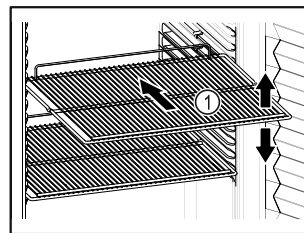

Fig. 77 Example illustration
- ❑ If storage surfaces Fig. 77 (1) are movable, adjust them according to height.